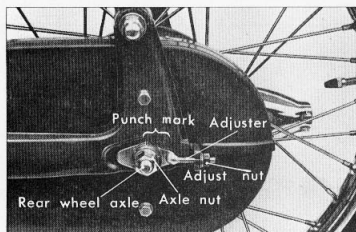

Figure 6-33. Adjusting the drive chain
- b. Perform adjustment by loosening the axle nut and sleeve nut and then adjust with the adjuster nut. (Fig. 6-33)